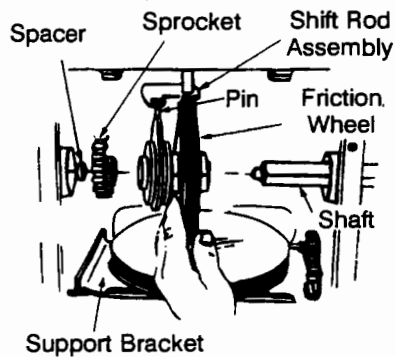

FIGURE 21
- Position the friction wheel assembly up onto the pin of the shift rod assembly and slide the shaft through the friction wheel. See Figure 21.